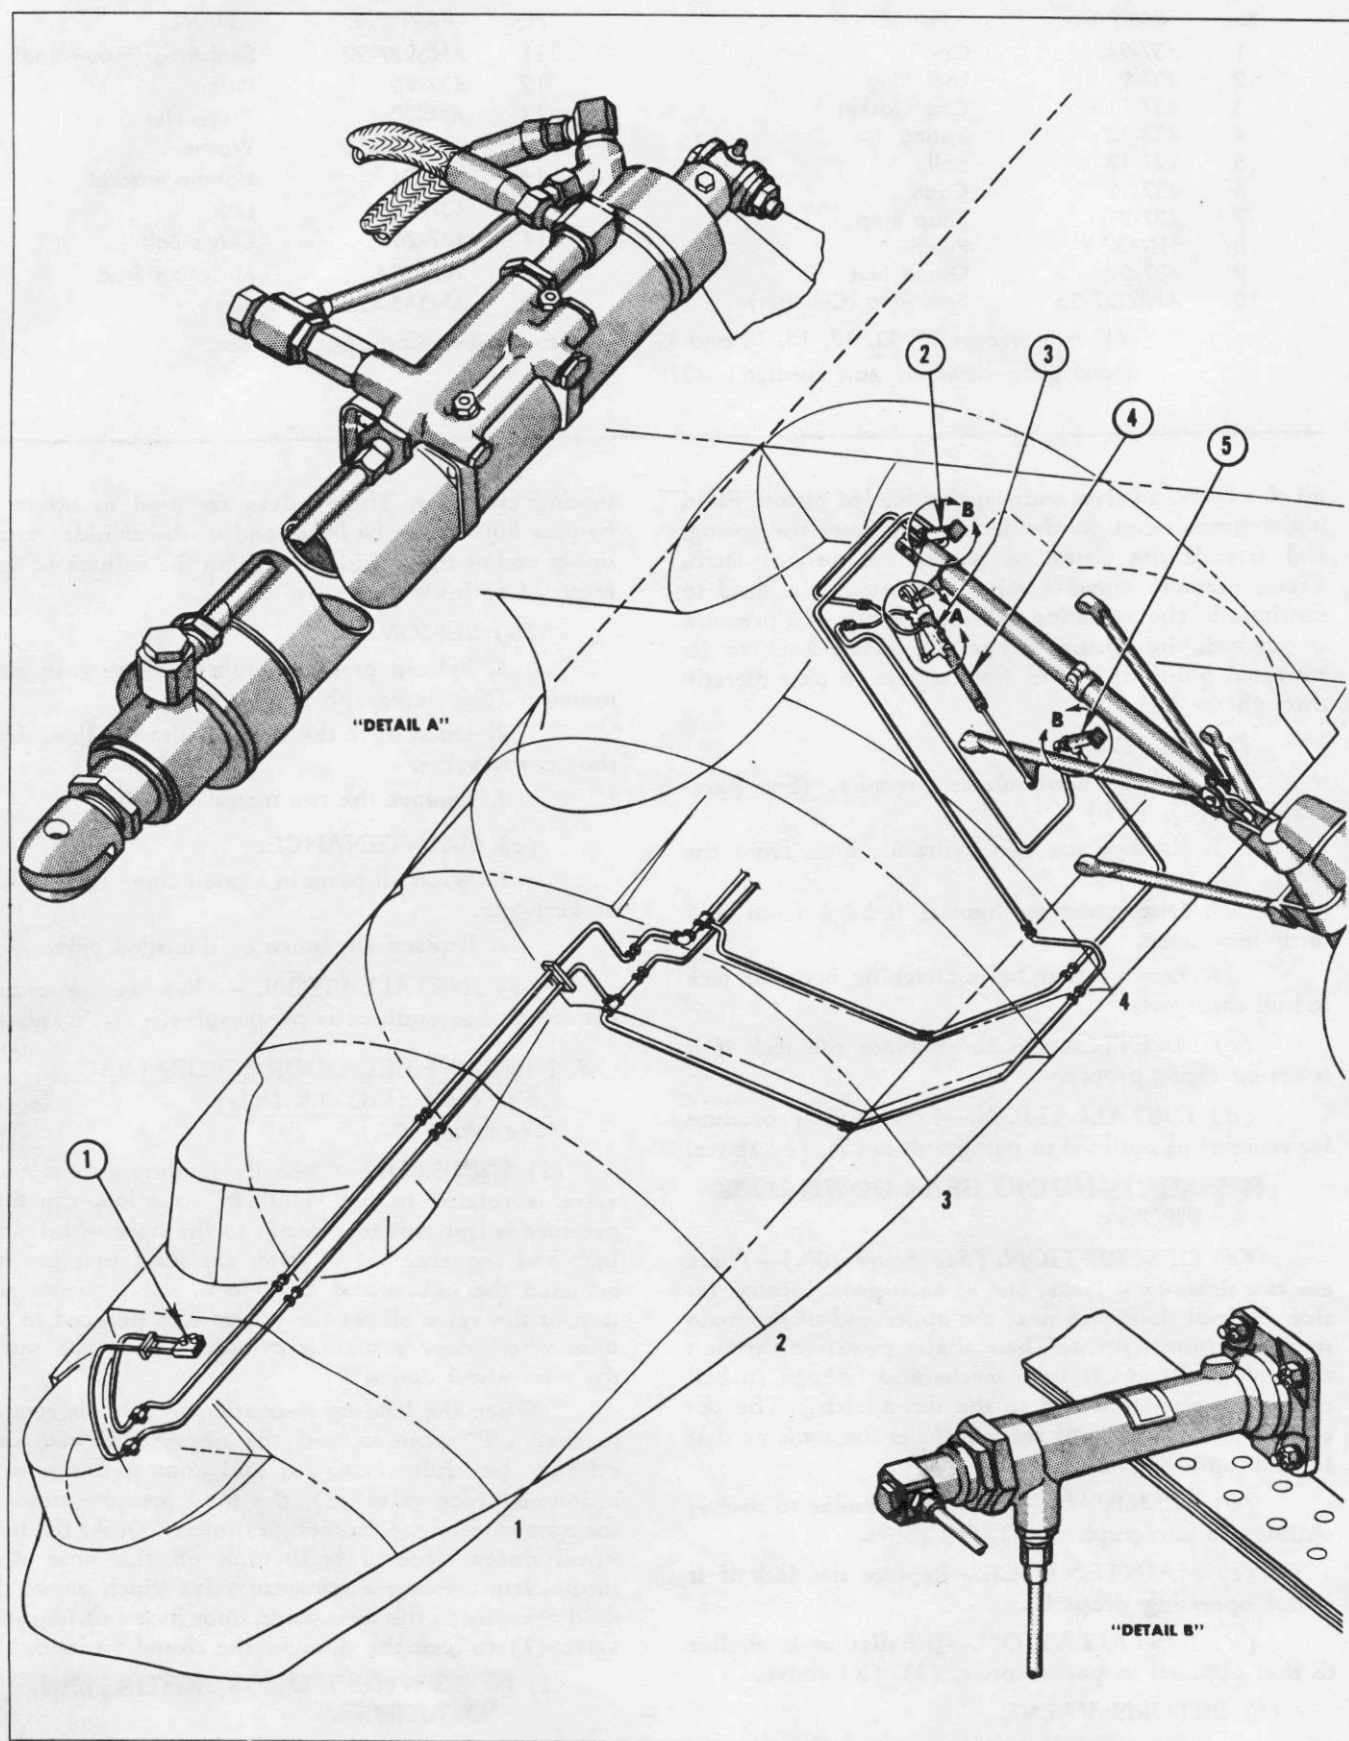

Figure 200—Main Landing Gear Hydraulic System Diagram (PBY-5A Only)
(See figure 200.)
(a) DESCRIPTION. (See figure 200.)—There are two main landing gear actuating cylinders (United Aircraft Products No. 41522), one to operate each of the landing gears, located in the landing gear wheel wells. The actuating cylinders contain a steel cylinder and piston rod, with aluminum alloy cylinder end caps. The actuating cylinder floats between a bracket near the upper end of the main strut and a bracket on the forward leg of the upper "Vee" struts. The operation of this actuating cylinder is similar to the usual type of hydraulic double acting cylinder or jack. Reversal of motion is accomplished by reversing the direction of flow of fluid by means of the selector valve. By piston
(a) DESCRIPTION. (See figure 200.)—There are two up-lock jacks (Pesco No. 523 or Weston Aero Hydraulics No. 523) on the main landing gear, one at each of the gear up-locks. These jacks perform two functions: The first is to unlock the up-lock; the second is to act as a sequence valve and transfer fluid under pressure to the actuating cylinder. The jacks are located on the inside of the hull near the center of the wheel well and their shafts protrude through the hull and couple to the up-lock mechanism. The unit is made
**(d) INSTALLATION.**—Reverse the procedure for removal as outlined in paragraph c, (3), (b) above.
**(4) MAIN LANDING GEAR DOWN-LOCK JACK.**
**(a) DESCRIPTION.** (See figure 200.)—There are two down-lock jacks, one at each gear, located inside the hull sheer web near the upper end of the main strut attachment point. Their shafts protrude through the hull and connect to a mechanical linkage (a bell crank and push-pull rod to the down-latch.) The operation and function of these jacks is the same as that for the up-lock jacks.
**(b) REMOVAL.**—Removal is similar to that as outlined in paragraph c, (3), (b) above.
**(d) INSTALLATION.**—Installation is similar to that outlined in paragraph c, (3), (d) above.
**(5) RETURN VALVE.**